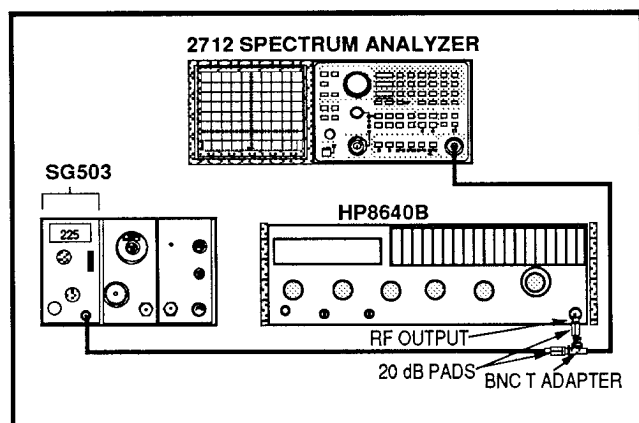

Figure 3-1. 3rd Order IM (25 MHz separation)
b. Connect the test equipment as shown in Figure 3-1.